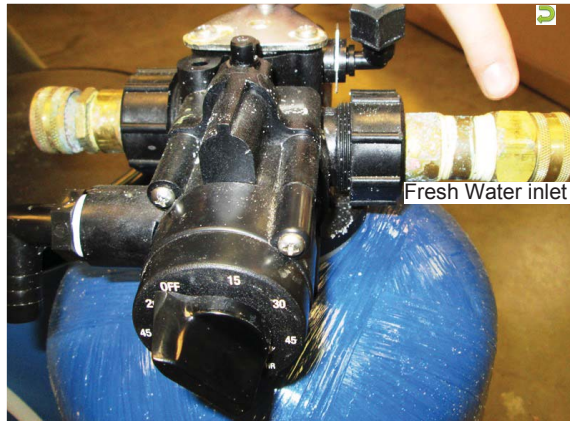
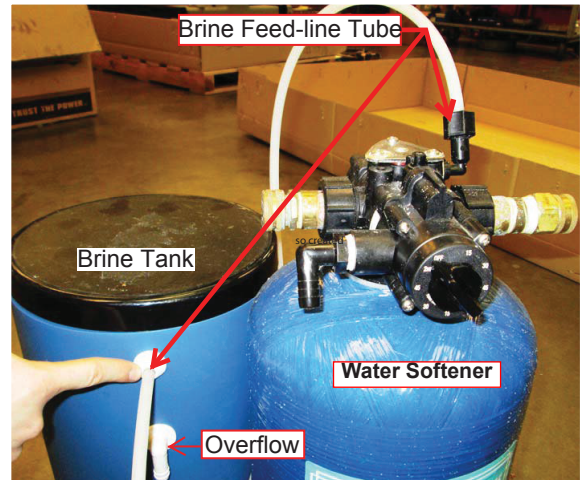
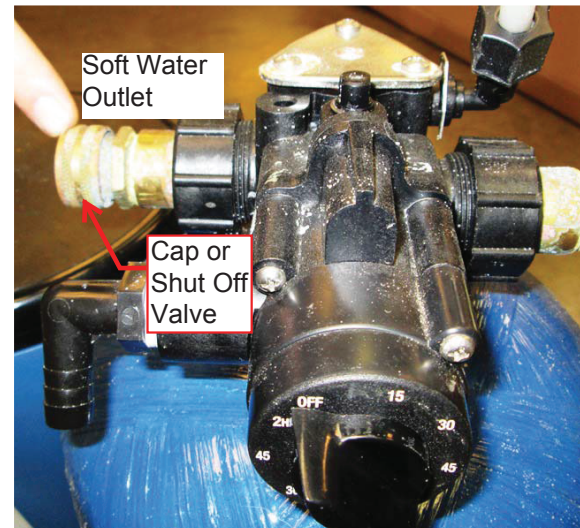

Figure 117. Connect Fresh Water Hose to Fresh Water Inlet
Figure 118. Water Softener, Brine Tank, Brine Feed-Line Tube and Overflow
Figure 119. Outlet Side of Water Softener
1. Flush the fresh water hose before using it to supply water to the water softener. After the line runs clear, turn off the water and connect the fresh water hose to the inlet side (see Figure 117) of the water softener (see Figure 118).
3. Allow fresh water to flow into the water softener (see Figure 117) and from the outlet (see Figure 119) of the water softener for a minimum of 2 minutes. This will purge the air and any foreign materials from the water softener.
5. Remove the lid from the brine tank, shown in Figure 118, and fill the brine tank to the $\frac{1}{4}$ level using only fresh water.
6. Slowly add water softener rock salt (pellets are not recommended) to the water in the brine tank. Add enough salt to reach the top of the water level. Add more fresh water bringing the water level to just below the overflow outlet shown in Figure 118. Stir the water-salt combination very gently (15 seconds) and then replace the cover.
7. Connect the brine solution feed-line, shown in Figure 118, to both the brine tank and the water softener.
8. Shut off the outlet side of the water softener, shown in Figure 119, using a turn valve or pipe cap.
13. After 3 - 5 minutes, the brine solution will begin to be drawn from the brine tank. The flow can be checked by disconnecting the brine feed-line, shown in Figure 118 from the brine tank. Once the line is disconnected, listen for a vacuum sound at the end of this tube. If you hear a vacuum sound, the system is working correctly; reconnect the feed-line to the brine tank.